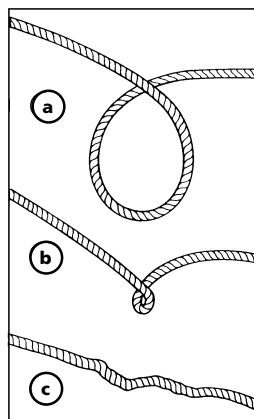

Figure 9
5. **PREVENT KINKS BEFORE THEY OCCUR** (See Figure 9).